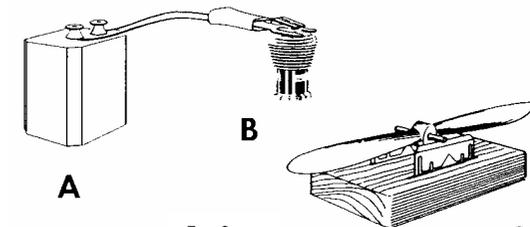

Fig. 3
4. Procure a 1 1/2 volt dry cell battery, #6 or equivalent, and connect it with 2 flexible insulated wires to the glow plug clip as shown in the diagram A and B-Fig. 3. Do not use a stronger battery. If you do, the plug will burn out. The connections should be soldered to insure good contact, and taped to prevent bare ends of wire from getting together and shorting the battery. Be sure the battery is a good one. Your dealer sells batteries and glow plug clips. The Thimble Drome plastic mounted glow plug clip with wires already attached is recommended, and requires no soldering. (Cat. #755—35c).
the edges of the blades. Fit a drill or shaft through the hole and rest the shaft on razor blades set in wooden blocks as shown in C-Fig. 3. Sand the heavy blade until the propeller will balance in a horizontal position. Care must be taken to do the sanding without spoiling the airfoil characteristics of the propeller blades. Caution: use only nylon or wooden props. Styrene props are extremely dangerous on these engines.
5. Connect the battery by snapping she clip on the glow head B-Fig. 3.